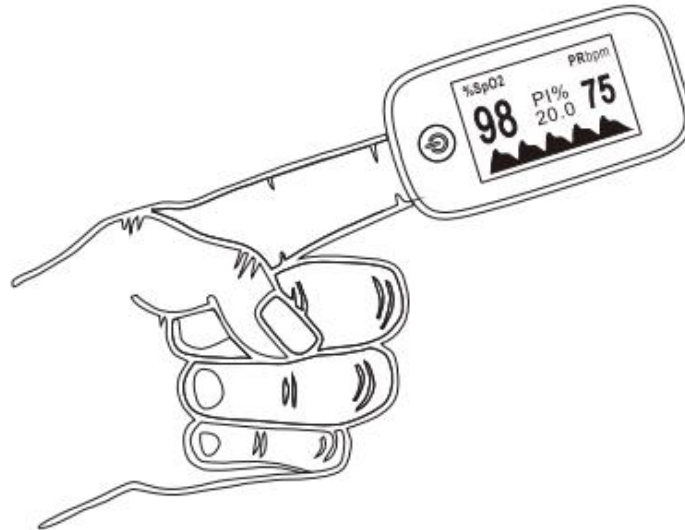

Figure4 Finger Placement Diagram
- B. It is recommended to let the LED light shine directly on the nail(Figure 4);